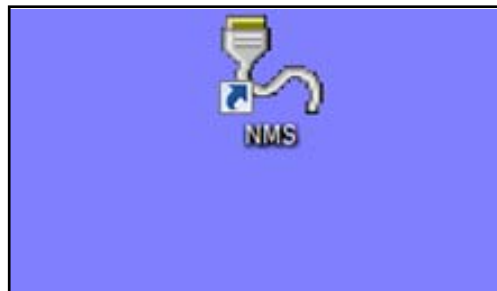

Figure 4-29. Locate NMS Icon
2. Locate the NMS icon on the screen of the monitoring device, **Figure 4-29**.